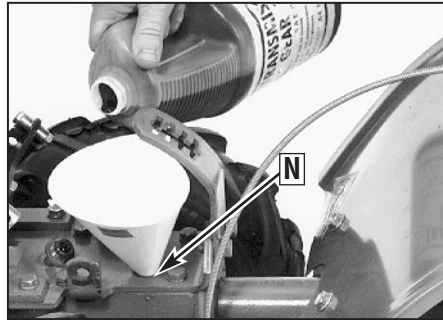

Figure 2-11: Adding gear oil.
- (a) Clean area around the fill hole (N, Figure 2-11) and unscrew gear oil fill plug.
(c) Using a clean funnel, slowly add gear oil until it flows from the gear oil level check hole (N, Figure 2-11).